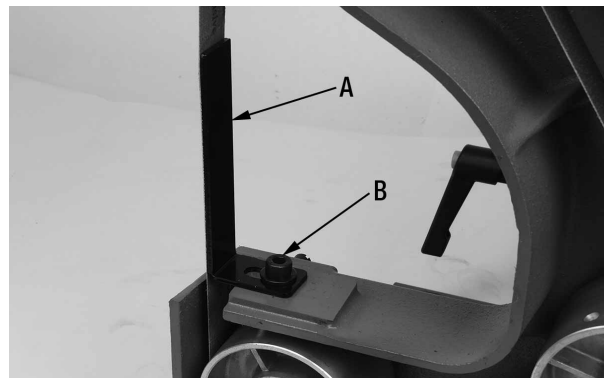

Figure 13
The instructions for installing a 1" x 42" sanding belt is the same as the above instructions for installing 2" x 42" with only one exception. When using a 1" x 42" sanding belt, it is required to install the 1" belt platen (A) Fig.13, to install 1" belt platen:
1. Install 1" x 42" sanding belt as described above. Loosen and remove the large cap screw (B) Fig.13, replace the 2" belt platen with the 1" belt platen (A). Refer to Adjusting Belt Platen for more information on setting the belt platens.